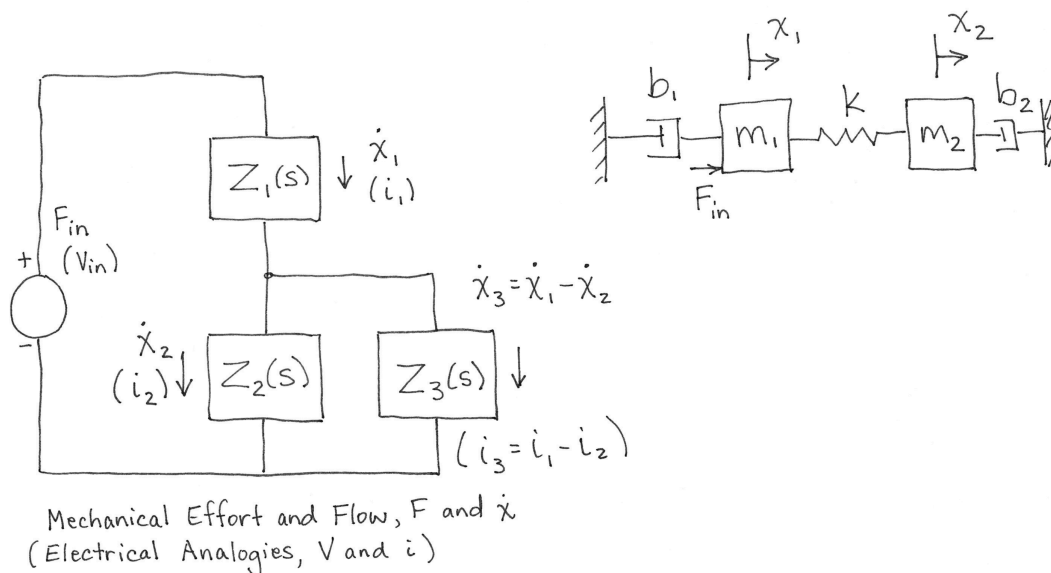

Figure 5. Mechanical impedances in a circuit (problem 5).
**5) Analogous mechanical and electrical impedances as “circuit elements”.** Figure 5 shows a 4th-order (translational mechanical) system (at right) and an analogous circuit structure (at left). (“4th-order” means, for one thing, that the denominator of the transfer functions will be a 4th-order one...)